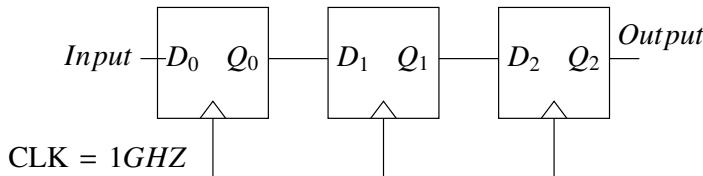

Fig. 5.6
6. Implement the synchronous sequential circuit shown below in Fig. 5.6 with a clock frequency of $500Hz$.